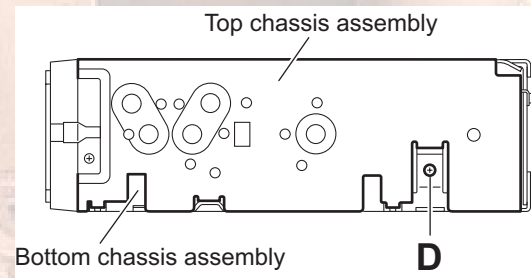

Fig.4
- (2) From the both and rear sides of the main body, remove the four screws **D** attaching the top chassis assembly to the bottom chassis assembly. (See Figs.4 to 6)